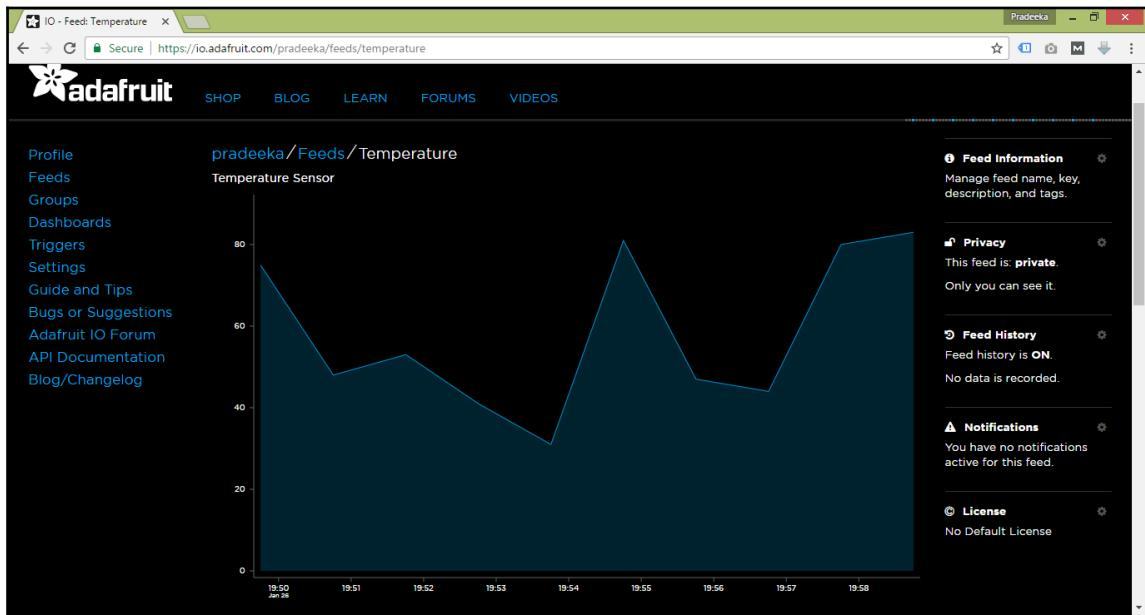

Figure 4-32: Display TMP102 temperature sensor data in Celsius on a Line Chart vs time
12. Visit your Temperature feed page in Adafruit IO (<https://io.adafruit.com/username/feeds/temperature>). You will get a Line Chart similar to the one shown in Figure 4-32 and a *Table view* as shown in Figure 4-33: